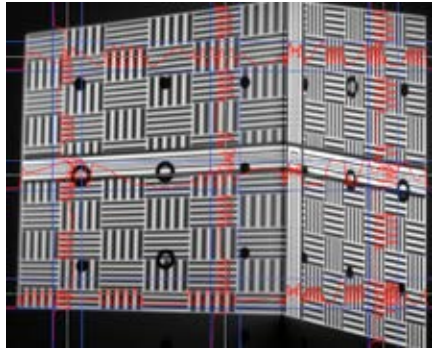

Figure 4.11: Ideal live camera image for calibration
5. Check the camera image: In the areas where the waves are visible, the red intensity curves must not reach the blue lines. If the object to be scanned is considerably darker than the white glass calibration panels, the sine waves will now be overdriven. Correct this by temporarily reducing the "Projector Brightness" slider in the software. The camera image for calibration should look similar like shown in Figure 4.11.